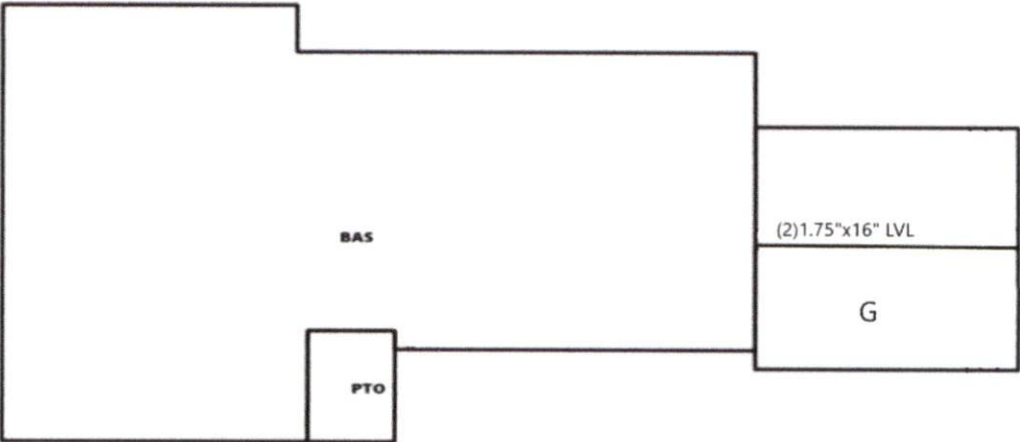

Figure 2
-Use (2)1.75"x16" LVL beam 2.0 E, under the current ridge board, the two ends of the ridge beam should be supported by (5)2x4 stud columns, the outer two studs to be used as a king studs, The stud column should be laid over (2)2x4 top plate over the existing concrete rings over the window width. The other end of the ridge beam can be supported from top to the existing floor slab, as in Fig 2. Make sure to add blocking on both sides of the end beam attached to end gable or/and an angled 2x4 between beam and top plate at the window side. Use 18" long strap to connect the existing ridge board with the ridge beam every 24" along the ridges length from both sides. Add connection between rafters and existing ridge board using either brackets or hurricane ties.